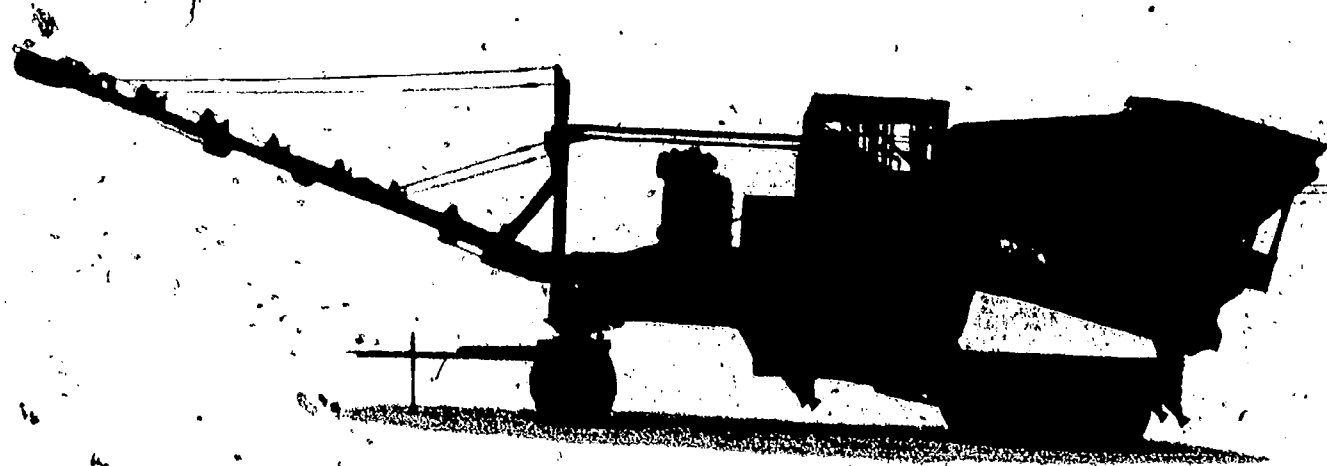

Fig 6-9. Rock crusher, 75-TPH, primary unit, model 2036.
b. 75-TPH rock crusher, model 2036/101-S (fig 6-9 through 6-19). The 75-TPH rock crusher consists of a primary unit and a secondary unit. Each is a self-contained unit capable of crushing rock and gravel of particular sizes. Each plant is composed of the following basic components: